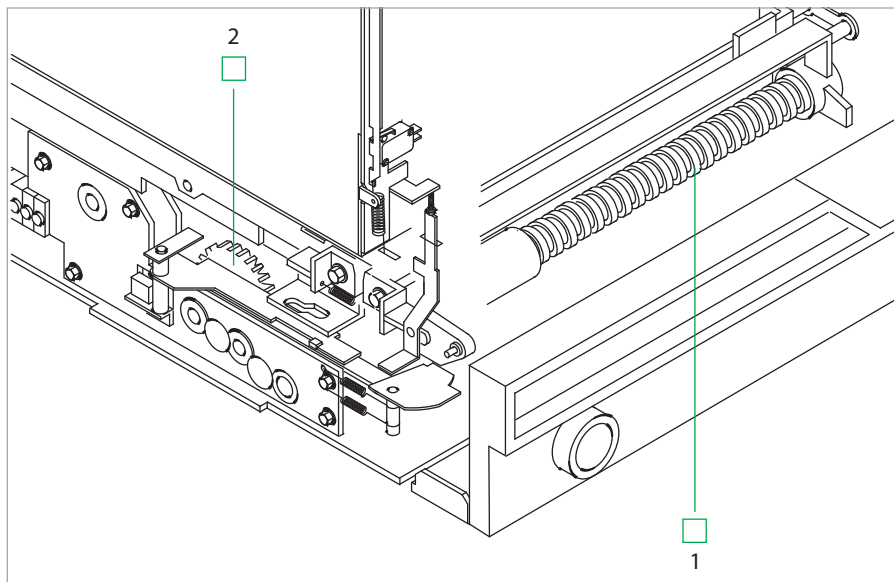

Fig. 42
- Spindle of truck mechanism (Fig. 42, item 1). The spindle is accessible from below.
- Geared wheels of truck mechanism (only in case of motor-drive) (Fig. 42, item 2). The geared wheels are accessible once the lower front cover has been removed.